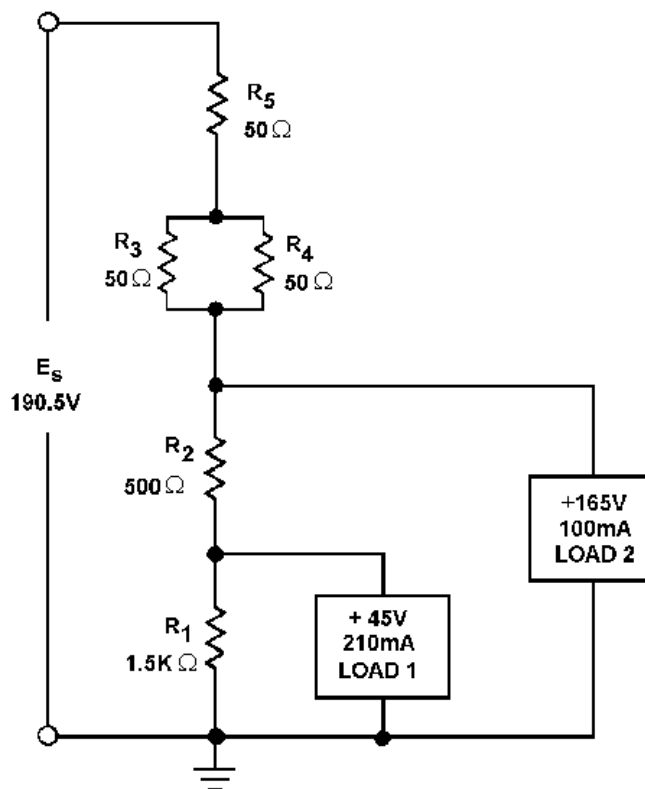

Figure 3-67.—Practical example of a voltage divider.
Once the values for the various divider resistors have been selected, you can compute the power used by each resistor using the methods previously explained. When the power used by each resistor is known, the wattage rating required of each resistor determines the physical size and type needed for the circuit. This circuit is shown in figure 3-67.
- Q53. In figure 3-67, why is the value of R_1 calculated first?
- Q54. In figure 3-67, how is (a) the current through R_2 and (b) the voltage drop across R_2 computed?
- Q55. In figure 3-67, what is the power dissipated in R_1 ?
- Q56. In figure 3-67, what is the purpose of the series-parallel network R_3 , R_4 , and R_5 ?
- Q57. In figure 3-67, what should be the minimum wattage ratings of R_3 and R_5 ?